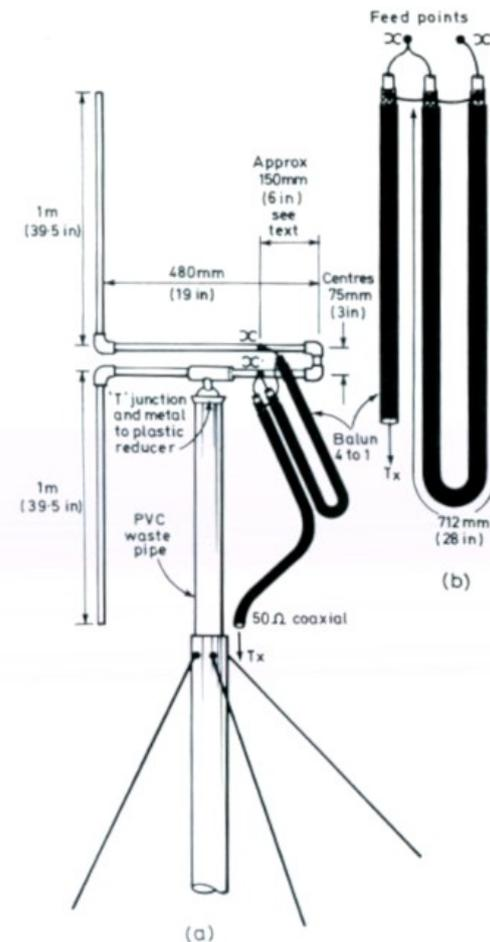

Fig. 2.14. (a) Construction of a two-element collinear from copper water pipe and fittings. (b) Details for the balun (see text)
The antenna is self supporting and can be mounted on the top of a metal mast as shown by means of a T junction let into the lower leg of the stub and coupled to the mast by a length of PVC waste pipe. Suitable couplers can be obtained for this from builder's merchants. All the dimensions are given in Fig. 2.14(a) and details for the balun feed will be found in Fig. 2.14(b). Adjust the tapping points (X) for maximum radiation with the aid of a field strength meter, series power meter, neon or fluorescent tube at voltage points etc., and also for low VSWR which should not be greater than about 1 to 1.2. Adjustment can be made on a received signal, i.e. adjust for maximum signal meter reading.